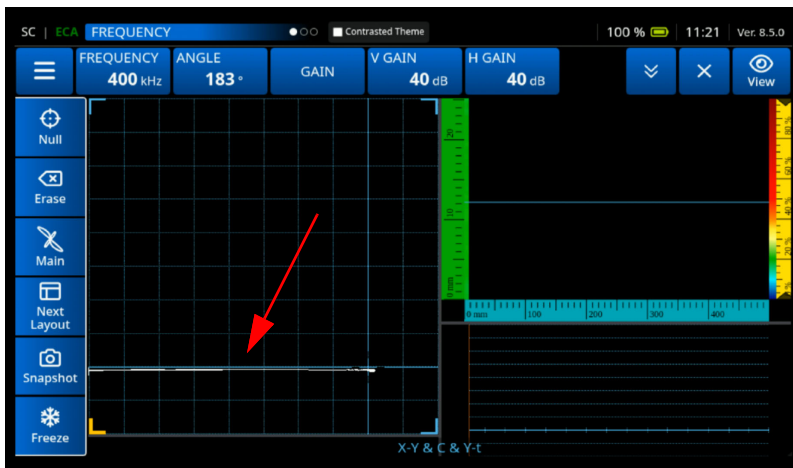

Figure 4-86 Lift Off Signal
- Using the live XY plan, tilt the probe to confirm good lift-off signal in the left horizontal position (See Figure 4-86 on page 182).